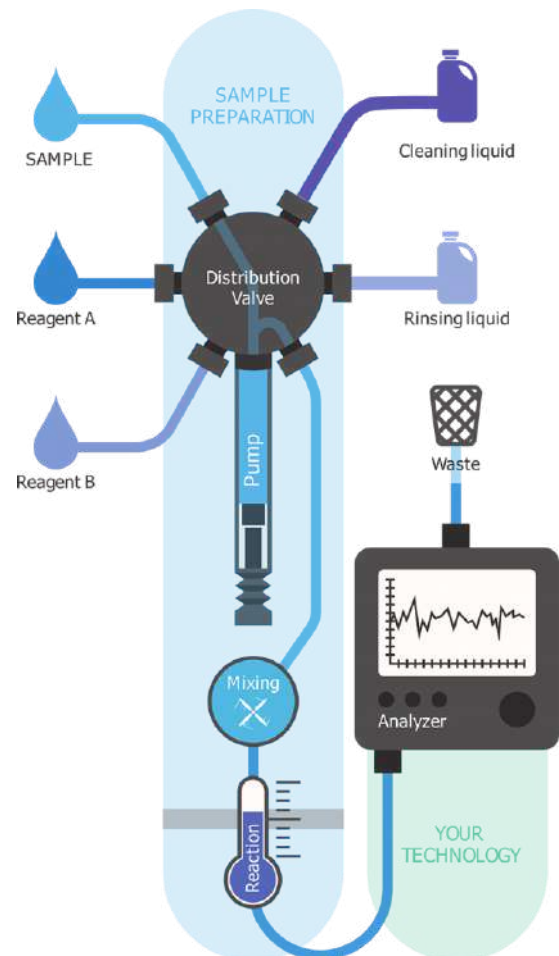

Figure 4. AMF Automated sample preparation principle.
This process is fully automated thanks to the **AMF Sample preparation module** mounted in the system, **shown on figure 4**. A 2mL sample volume of water is required. The water sample is taken and **SYBR Green I (SG)** dye solution is distributed evenly throughout the sample, and automatically mixed.